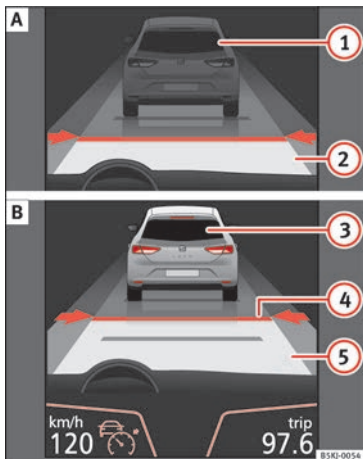
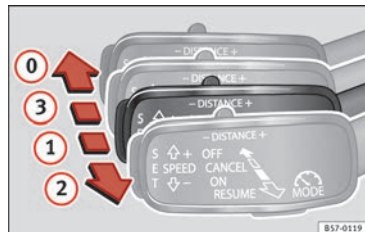
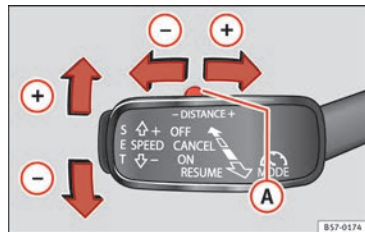

Fig. 196 On the instrument panel display: (A) ACC inactive (Standby). (B) ACC active.
Fig. 198 On the left of the steering column: third lever for operating the Adaptive Cruise Control.
Fig. 199 On the left of the steering column: third lever for operating the Adaptive Cruise Control.
Indications on the display » **Fig. 196:**
programmed speed and ACC status will be displayed » **Fig. 196.**
Once you are driving, if you wish to set the current speed as the vehicle's cruise speed and activate the ACC, press the **SET** button » **Fig. 199.** If you wish to increase or reduce speed by intervals of 1 km/h (0.6 mph), move the lever to position ② » **Fig. 198** or press the **SET** button, respectively.
Any modification to the programmed speed will be shown on the bottom left part of the instrument panel display » **Fig. 196.**
To increase/reduce the distance level, press the rocker switch towards the left/right » **Fig. 199** ①.
- To activate the ACC, with the third lever in position ① press the **SET** button or move the third lever of the ACC to position ② » **Fig. 198.** At this point, the image of the ACC on the instrument panel display will switch to *Active* mode » **Fig. 196.**
To disconnect the ACC move the lever to the ① position » **Fig. 198** (engaged). An **ACC deactivated** message appears and the function is totally deactivated.
If you do not wish to disconnect the ACC, just to switch it temporarily to inactive mode (Standby), move the third lever to position ③ » **Fig. 198** or press the brake pedal.